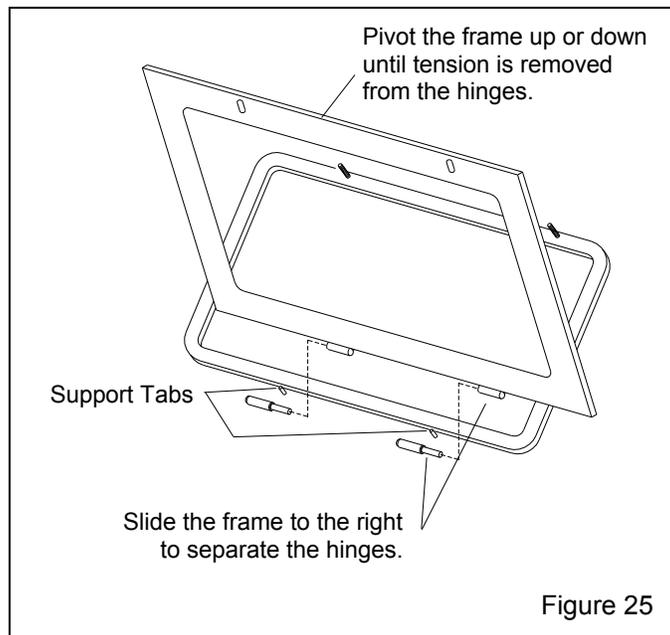

Figure 25
7.6 Window Frame Removal, Figure 25
7.6.4 To remove, slide the frame to the right. The hinges separate as shown in Figure 25.